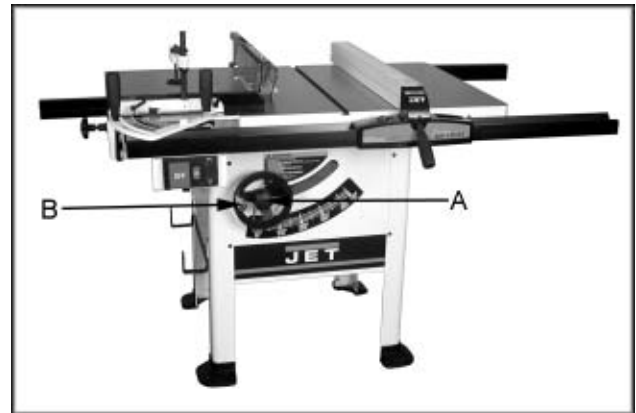

Fig. 26
1. To raise or lower saw blade, loosen the lock knob (A, Fig. 26) and turn the handwheel (B, Fig. 26) on the saw front until desired height is reached. Tighten lock knob. The blade should be adjusted 1/8" to 1/4" above the top surface of the material being cut, about 3-5 blade tips.